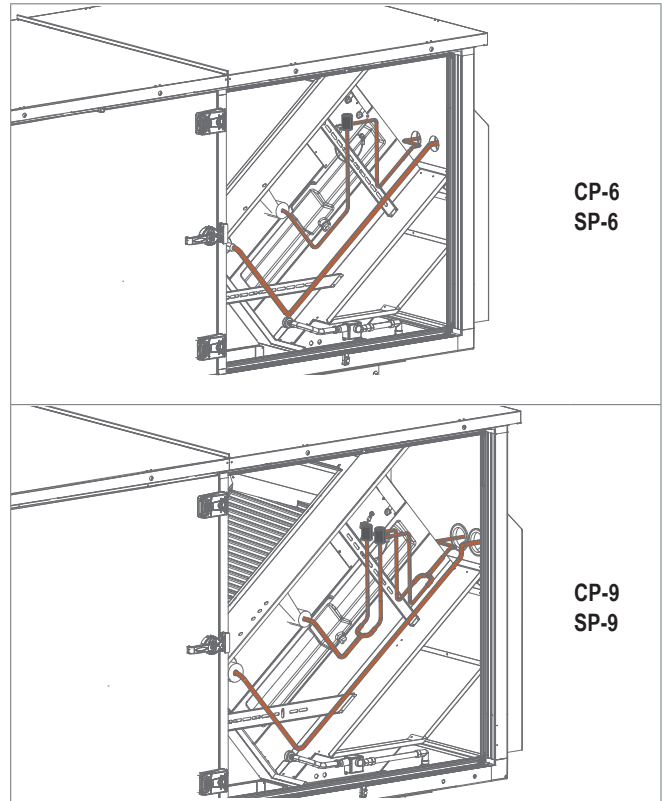

Fig. E7: Installation of refrigerant pipes in the roof unit
- Install the expansion valve supplied loose in the TopVent® roof unit, as shown in Fig. E7. Please note the following:
- 2 expansion valves are required for the Belaria® VRF (67). Use the branching kit supplied for branching the pipeline.